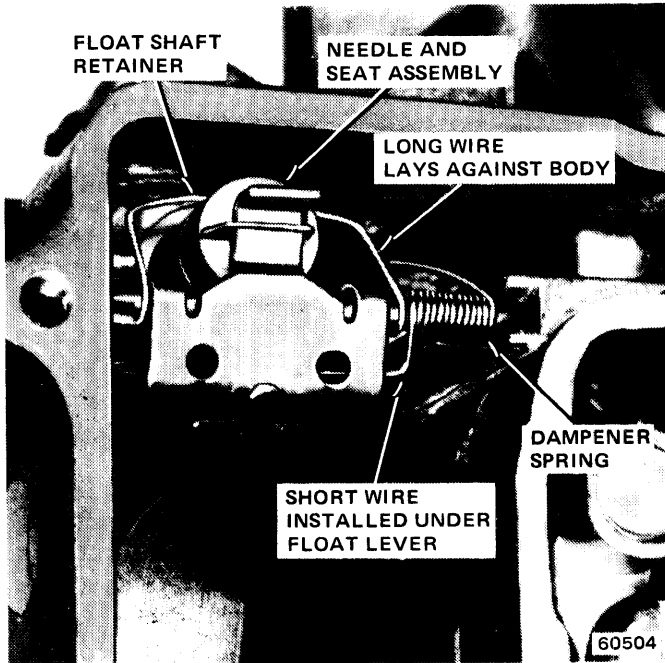

Fig. 4-78 Damper Spring Installation
(13) Slide float shaft into float lever. Position float shaft retainer on float shaft.
(14) Install float damper spring with short wire under float lever (fig. 4-78).